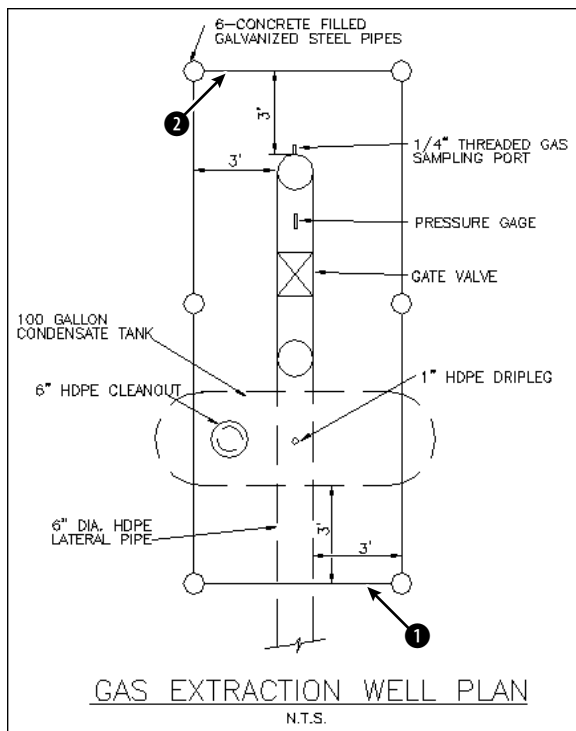

Figure 9-3: The gas extraction well schematic.
2. Save the file as `ab09-01.dwg` in your AutoCAD Bible folder. This drawing is a schematic of a gas extraction well, shown in Figure 9-3.
3. To erase the line at point ① of Figure 9-3, move the mouse until the pickbox at the intersection of the crosshairs is anywhere over the line and click. Notice that the line is dashed and displays grips.
6. At the `Select objects:` prompt, pick the line at point ② in Figure 9-3.